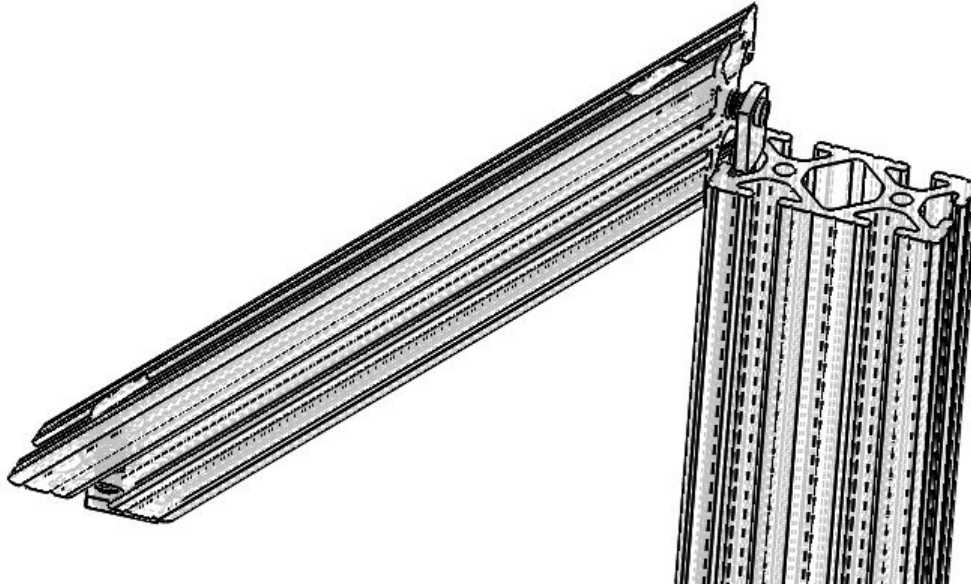

Fig. 3.20: Diagonal beam through the 1-1/2" x 3" T-slotted frame
- ❑ Drag the 5 holes in each side of the 1-1/2" x 3" T-slotted frame 4' long in the one groove side (Fig. 3.20).
- ❑ In the one groove side insert a diagonal beam 12" long (#JTKA), as shown in Fig. 3.20.